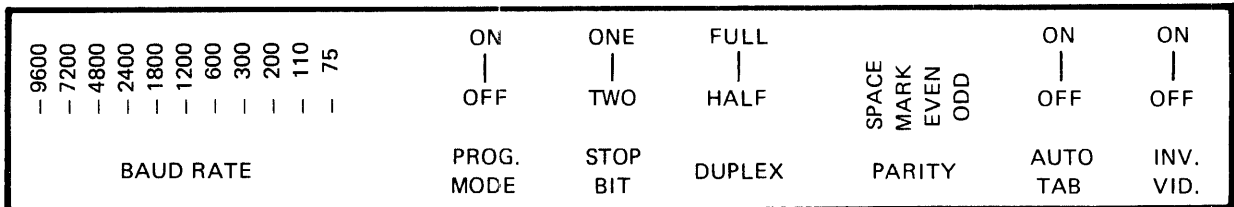

Figure E-1 Model 1200 Mode Selectors
To change the baud rate on a Model 1200 terminal, for example, locate the front panel and remove the cover. It is important to know which baud rates have been made available to the terminal via strapping on the PASLA, 8-line COMM MUX, etc. When this is known, depress CTRL-A and then change the baud rate setting inside the panel, using the scale depicted on the inside of the panel cover (see Figure E-1). By depressing the carriage return (CR) key repeatedly, the user synchronizes communication at the new baud rate. BIOC then responds with an asterisk (*) and continues with the newly selected baud rate.